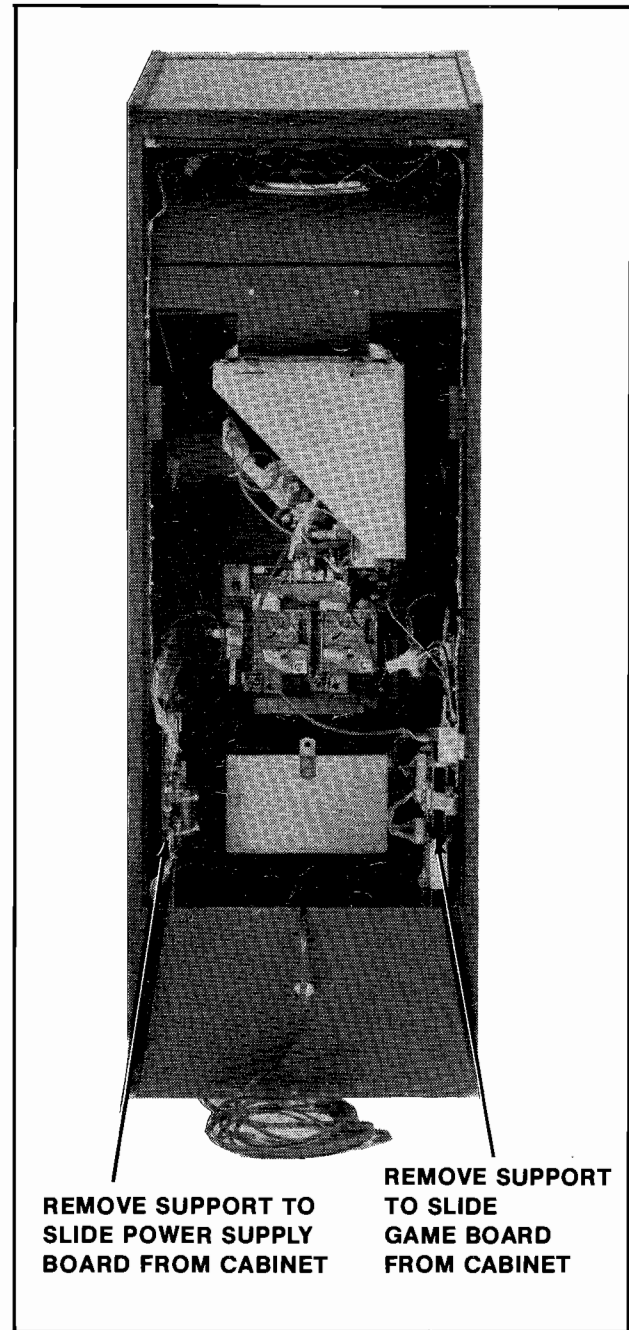

Figure 2-13 Removing P.C.B.'s — Mini
**2. MINI MODEL:** See Figure 2-13.
- Disconnect the power supply board from its cabling, remove the P.C.B. supports indicated in Figure 2-13, and slide it out the back of the cabinet.